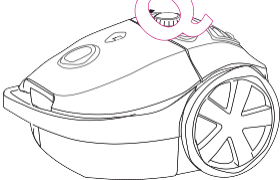

Figure 7 Vacuum suction control
- You can adjust the vacuum suction with the vacuum suction control, see Figure 7. It is advisable to reduce the vacuum suction when cleaning upholstered furniture and curtains. This will prevent the fabric from being sucked into the nozzle.